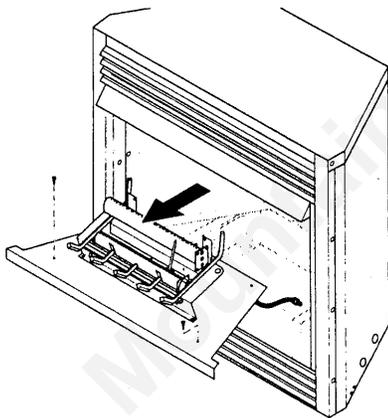

Figure 31 - Removing Log Base Assembly From Fireplace
2. Remove screws that attach log base assembly to fireplace (see Figure 31). Carefully lift up log base assembly and remove from fireplace (see Figure 31).